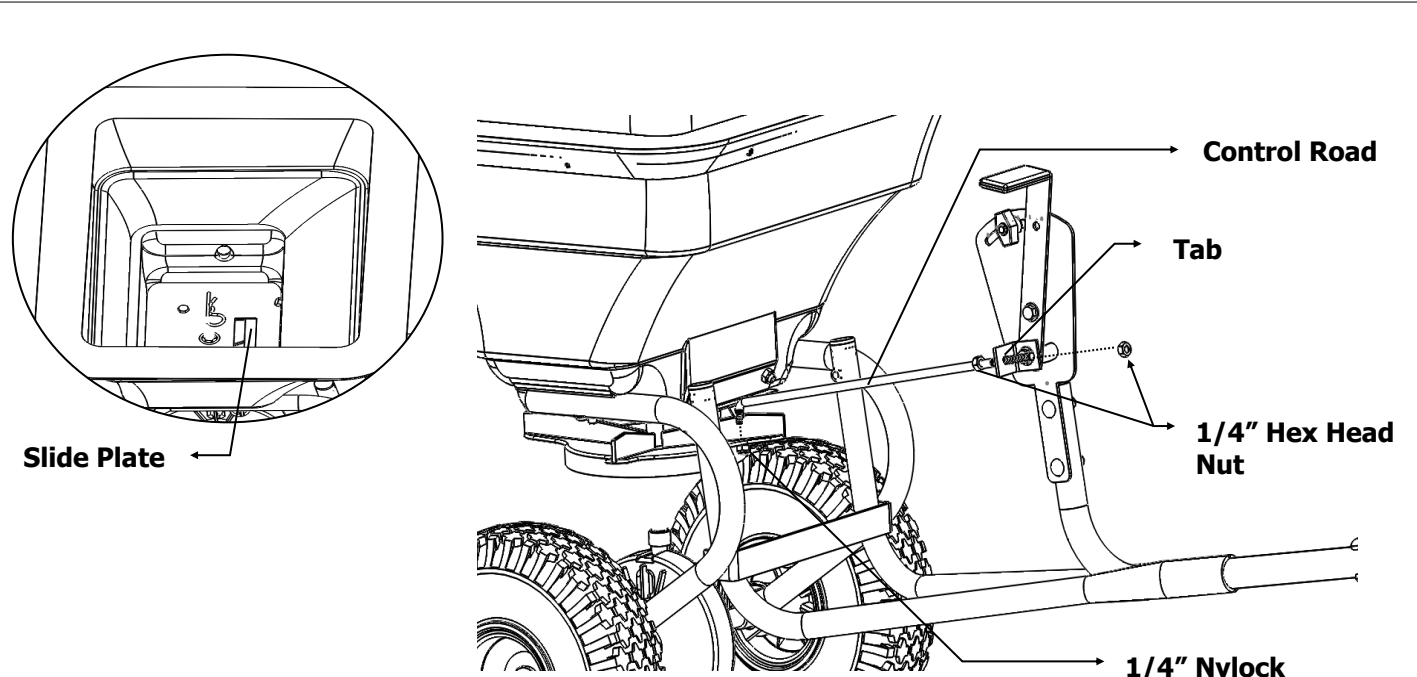

Figure 5
6. Loosen and tighten the 1/4" Hex Head Nut onto the Control Rod till the Control Rod and the Tab gets aligned and secure it. Slide the Slide Plate along the Control Rod until the flow plate in the bottom of the hopper is open half way, adjust the 1/4 Nylock Nut which secures the slide plate and control rod if required. See figure 5 for Slide Plate position. Make sure the slide plate will open and close all the way. Readjust if necessary.